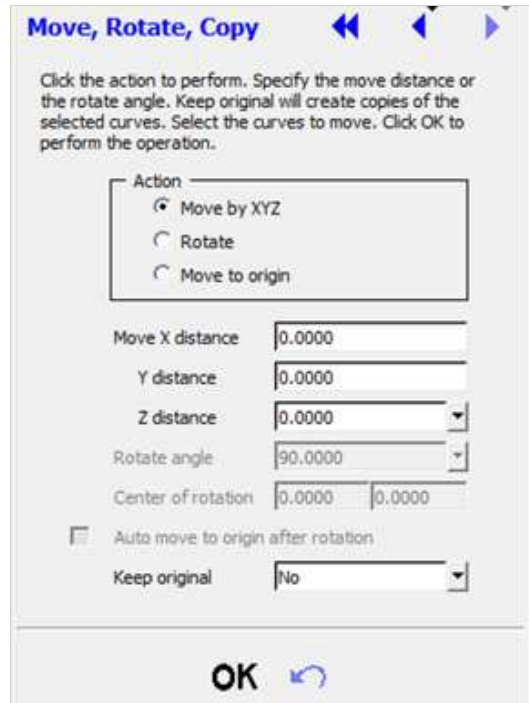
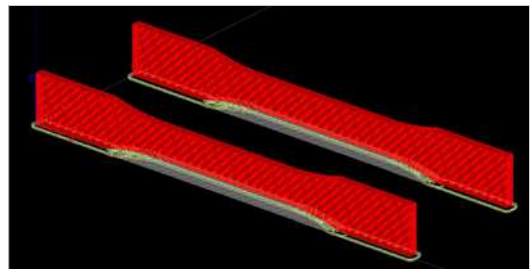

Figure 7. Move, rotate, copy menu on the right side of the screen.
Figure 8. Part copied in Insight.
3. In the menu on the right side of the screen (Figure 7), select the option **Yes** next to **Keep original**, then enter the offset from the origin where the part should be copied. Click **OK** and the part will copy into the new location (Figure 8). Repeat this process until the correct number of copies is in the file, regenerate toolpaths and save the job.